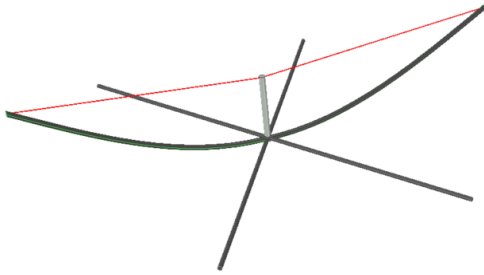

Figure 6 Add support cords to upper hub
5. Walk to the end of the spreader diametrically opposite to the one you have just added and connect the cord on that spreader to the upper hub to balance the load on the central support as shown in Figure 6.